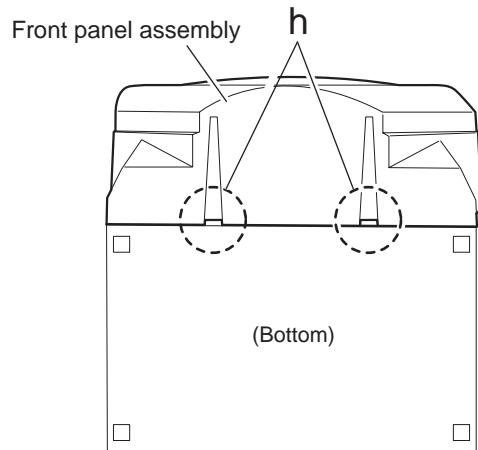

Fig.1
3.2.1 Removing the front cabinet (See Fig.1, 2)